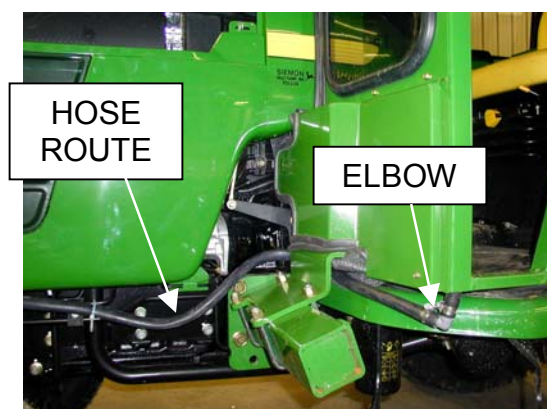

Figure 38
- 38) Install (1) elbow #3-10282, measure and cut heater hose from left side of cab to the lower water pump return nipple, just installed. See Figure 38.